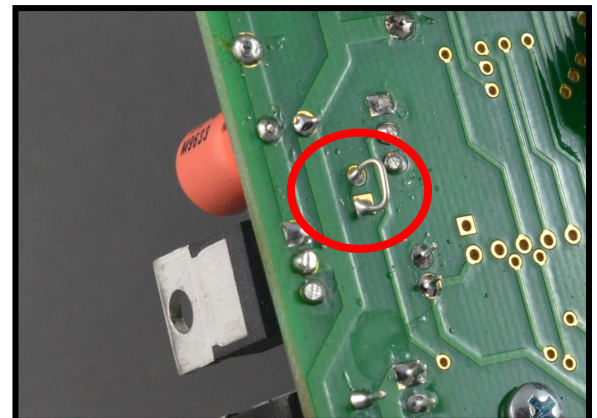

Figure 5c. Programming Jumper Wire.
- On the top side you **must** install the programming voltage jumper. (Figure 5c).